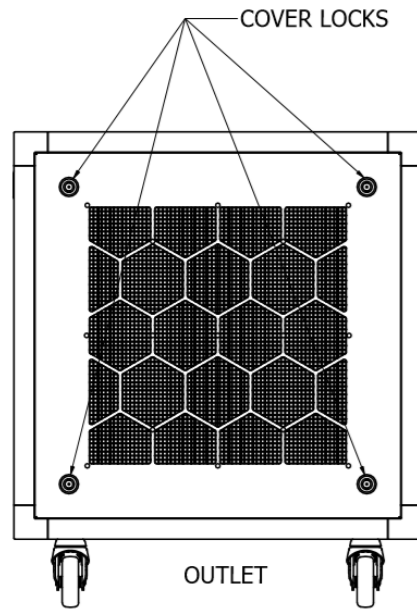

Fig.8 Cover locks
- 1) Open locks using key contained in the set (90° turn) [Fig.8].